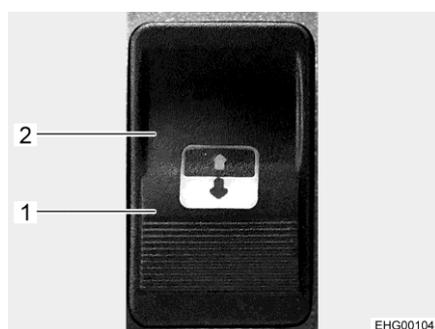

Fig. 119 Operating button
The operating button (Fig. 119) is installed on the vehicle's ceiling, next to the sunroof
- Opening:** ■ Press and hold the operating button on the side of the opening symbol (Fig. 119,1) until the sunroof has reached the desired position.
- Closing:** ■ Press the operating button on the side of the closing symbol (Fig. 119,2).
- Press and hold the operating button on the side of the closing symbol (Fig. 119,2) until the sunroof has been closed as far as possible.